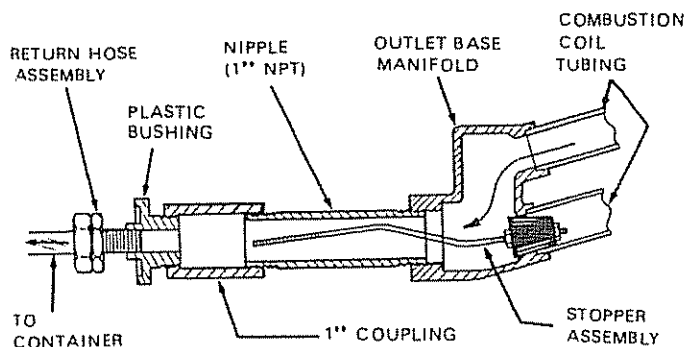

FIGURE 19
7. Insert one stopper firmly into the lower coil tubing outlet in manifold, fig. 19.
8. Install nipple, coupling, plastic bushing and return hose assembly as shown in fig. 19.